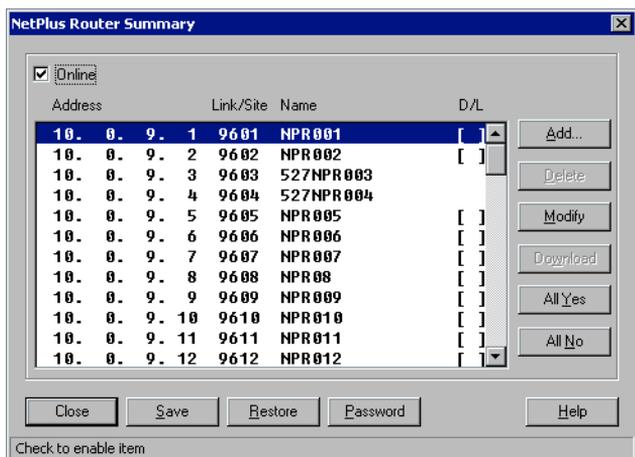

Figure 3-18. NetPlus Router Summary
- Click the **NP Routers** button on the Configuration Profiles editor. The NetPlus Router Summary screen displays (Figure 3-18).